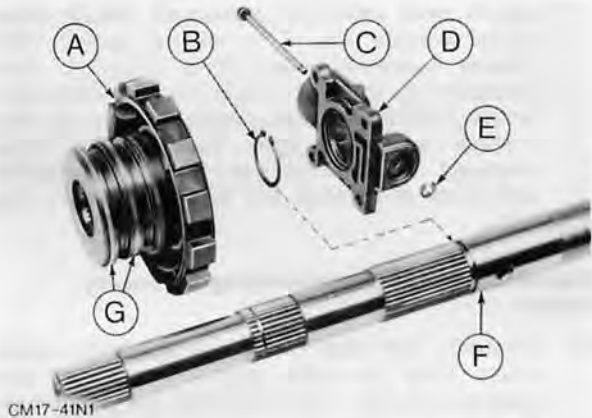

Fig. 104. Output shaft with governor and governor hub
32. Remove circlip from governor rod (without damaging bearing surface of rod) and withdraw rod. Take out governor valve and detach governor from governor hub, Fig. 104. Remove governor body from output shaft from rear and governor hub from output shaft from front. Remove circlip from governor body and take out flyweights. Remove circlip from outer flyweight and take out spring and inner weight. Clean all parts, renewing them if worn. Remove piston rings from governor hub and carefully fit new rings. Piston ring gaps must always be checked prior to fitting piston rings. Reassemble governor in reverse order using a new spring clip, Fig. 105. After reassembly, check: